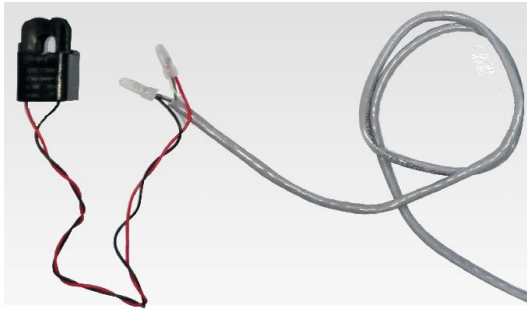

Fig. 8 CT wire extension / Direction of CTa
Step 5: Route RS485 network cable through the cable gland, connect RS485 network cable to RJ45 connector, then insert RJ45 connector into 485M port. (fig. 8)